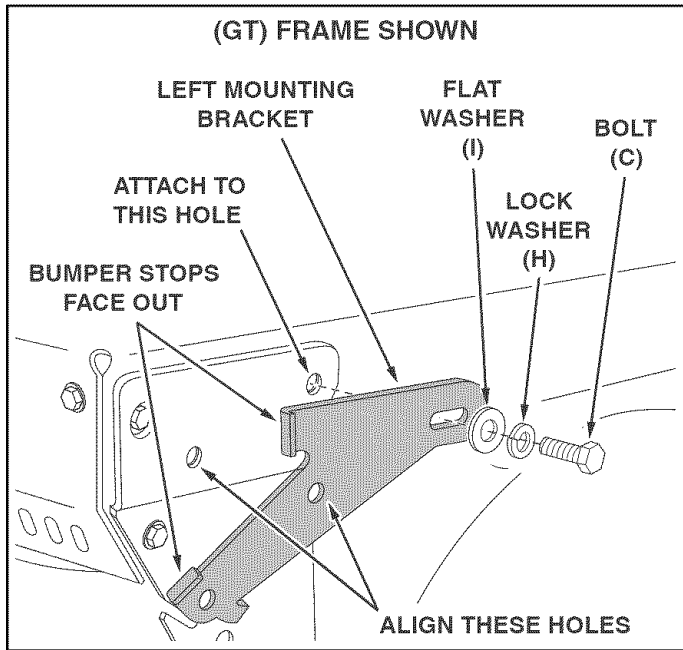

FIGURE 3 LEFT SIDE VIEW
STEP 4: (SEE FIGURE 3)
- Attach left mounting bracket to hole shown in left side of tractor frame using bolt (C), lock washer (H) and flat washer (I). Align middle hole in bracket with empty hole in tractor frame and tighten bolt (C) to hold bracket in place. Repeat for right mounting bracket.